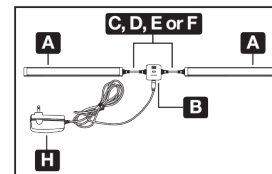

FIG. 6
**Split Configuration:** For layouts where preferred power source is centrally located within cabinets/mounting surfaces. (See **FIG. 6**)